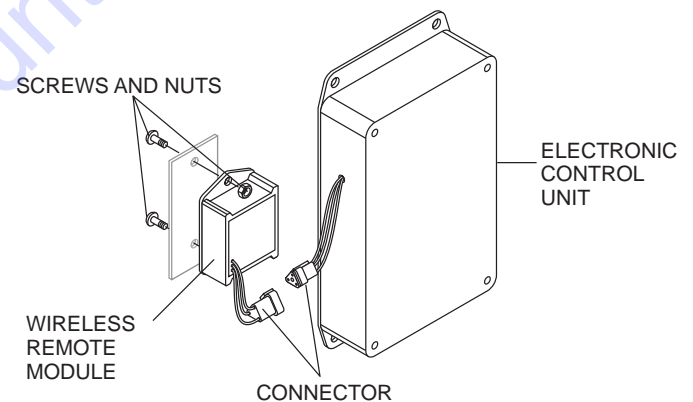

Figure 37. Installing Remote Control Module
3. Install the wireless remote module (Figure 37) with the 2 screws and nuts provided inside the control panel. Connect the 3-wire connector from the wireless remote module to the electronic control unit.